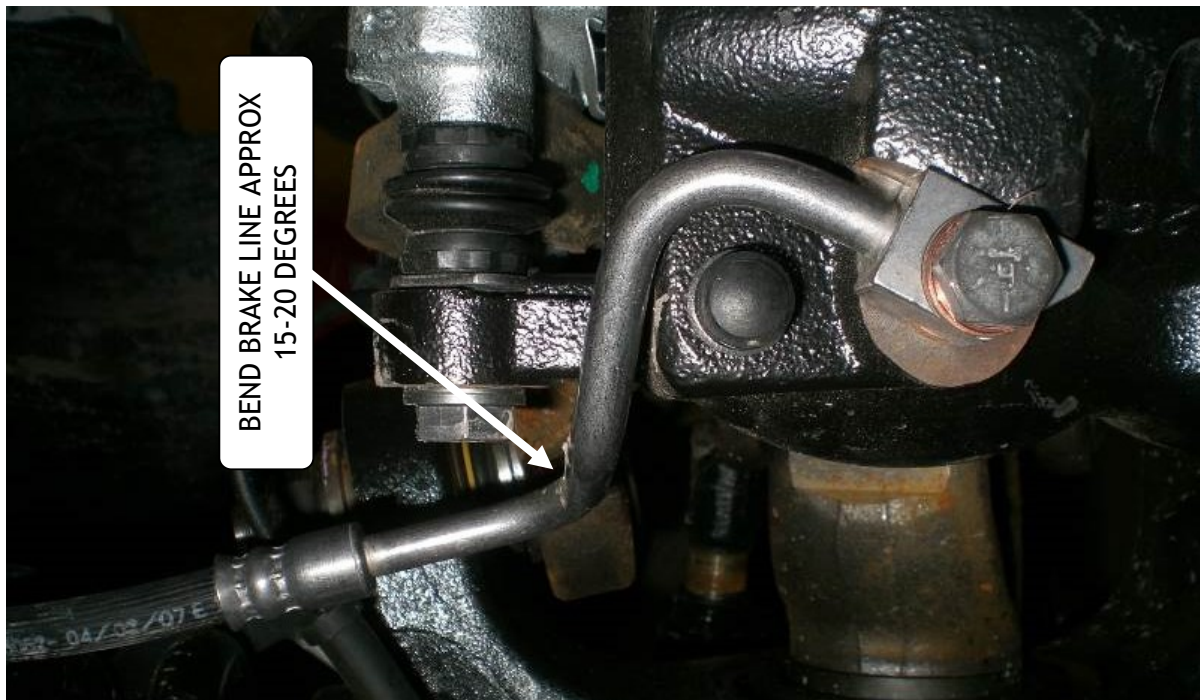
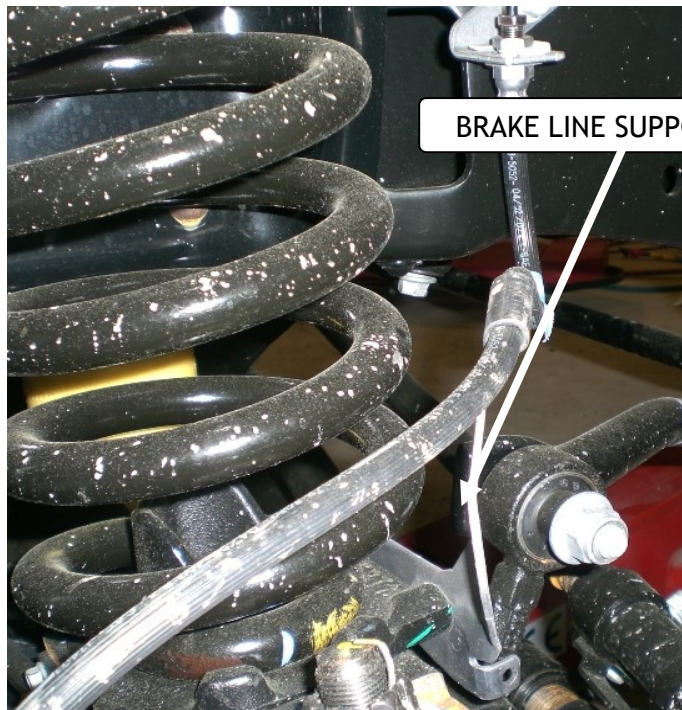
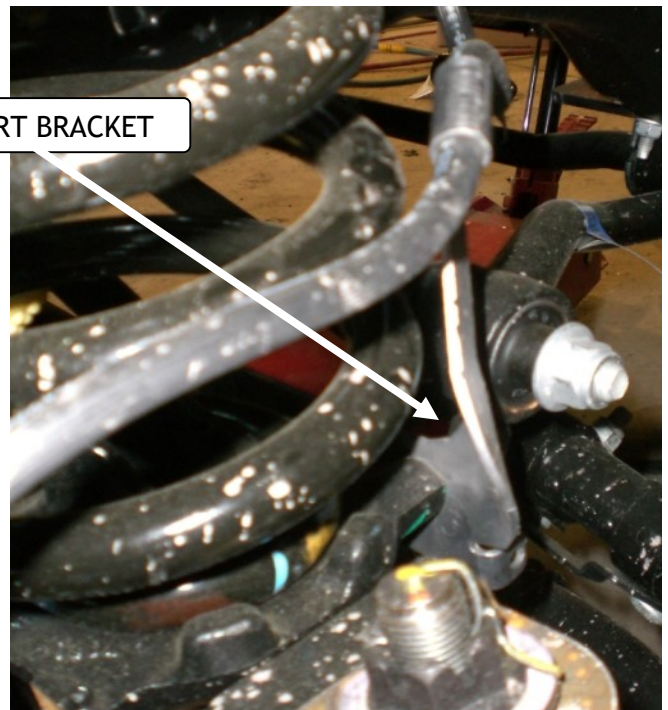

Figure 1
Figure 2
Figure 3
(Refer to Figure 1, Figure 2, and Figure 3)
- a. Using a tube bender, bend the brake line at the brake calliper approximately 15 - 20 degrees away from the wheel. (Figure 1).
- b. Bend the brake line support bracket towards the coil spring, leaving a small amount of room between the coil spring and bracket without touching (Figure 2) (Figure 3).